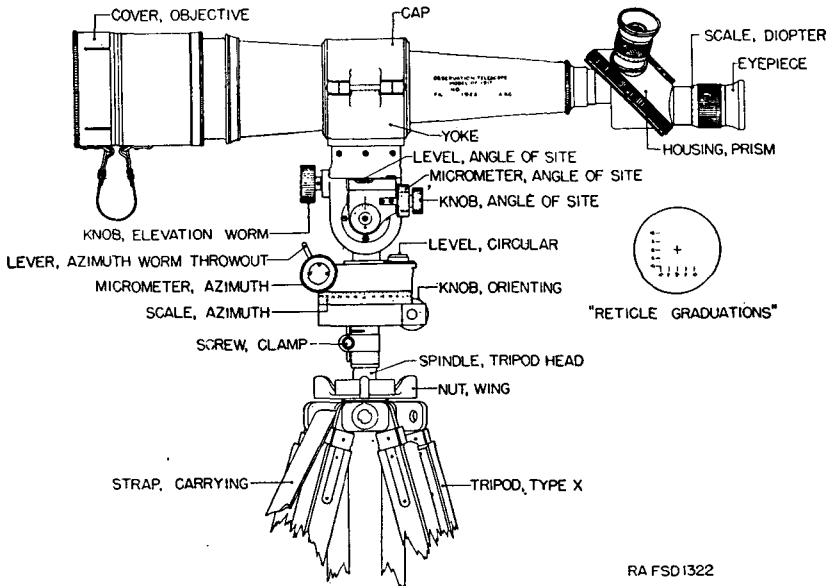

FIGURE 14.—Observation telescope, 3-power, French, M1917.
9. Telescope, observation, French, 3-power, M1917.—*a. General.*—This instrument (fig. 14), complete, consists of the telescope, telescope mount, azimuth mount, type X tripod, and carrying cases.
b. Description.—(1) The telescope is prismatic and has a turret at the eyepiece end which mounts three eyepieces. The eyepieces afford powers of 15, 23, and 30 and can be swung readily into position.
(2) The reticle (fig. 14) contains cross lines which indicate the optical axis of the telescope, and a set of vertical and horizontal scales graduated at 5-mil intervals. A special graduation at plus 3 mils on the vertical scale indicates the normal height of burst for spotting artillery fire.
(3) The telescope mount supports the telescope in a hinged yoke and cap secured by a thumbscrew. The mount includes the angle-of-site level, the angle-of-site scale which is graduated from minus 400 to plus 400 mils, the micrometer which is graduated from 0 to 100 mils by 1-mil intervals, and the angle-of-site knob. The elevation
legs to the desired height and embed them firmly in the ground. Place the telescope mount on the vertical spindle of the azimuth mount and clamp. Place the telescope in the telescope mount and clamp, then level by means of the ball and socket joint and circular level and clamp in position (fig. 14).